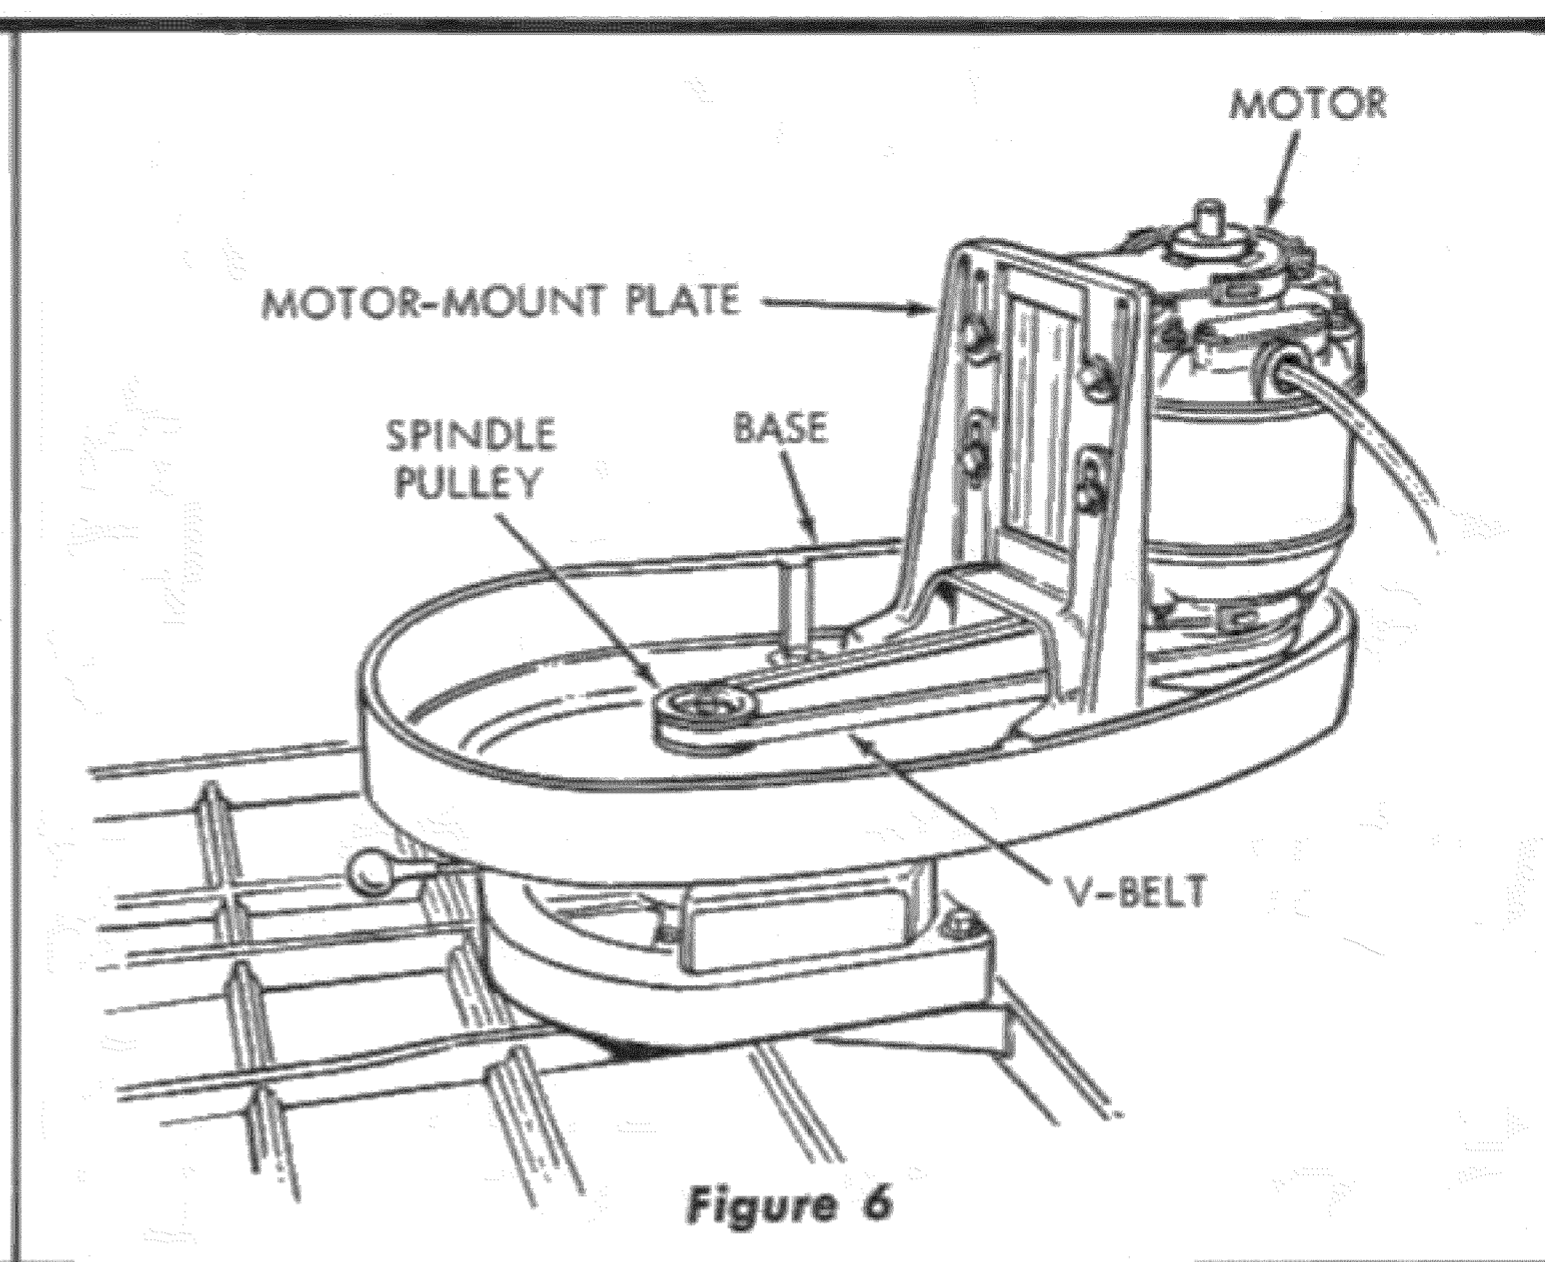

Figure 6
11. Place V-belt on motor pulley and attach motor mount plate to shaper base with two motor plate mounting bolts (3/8-16 x 1-inch) and washers. (See figure 6.) Leave bolts finger tight only.